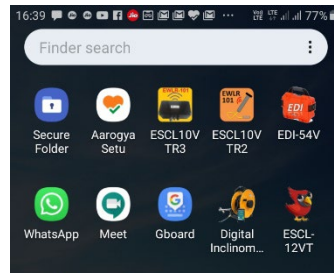

Fig 2-3 Application launcher
- After installing press *DONE* or application can be opened directly by pressing *OPEN*. User can open the application through application launcher also. See Fig 2-3.
Start the Application by a single tap on the icon ESCL-12VT from mobile screen to run the application as shown in *Fig 2-3*.